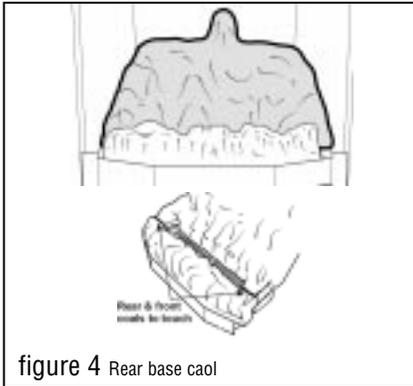

figure 4 Rear base coal
- 2 Place the rear base coal in the burner compartment behind the front coal. It should rest on the ledge at the back of the burner compartment. The projections at the sides of the rear coal should touch the front coal. See figure 4.